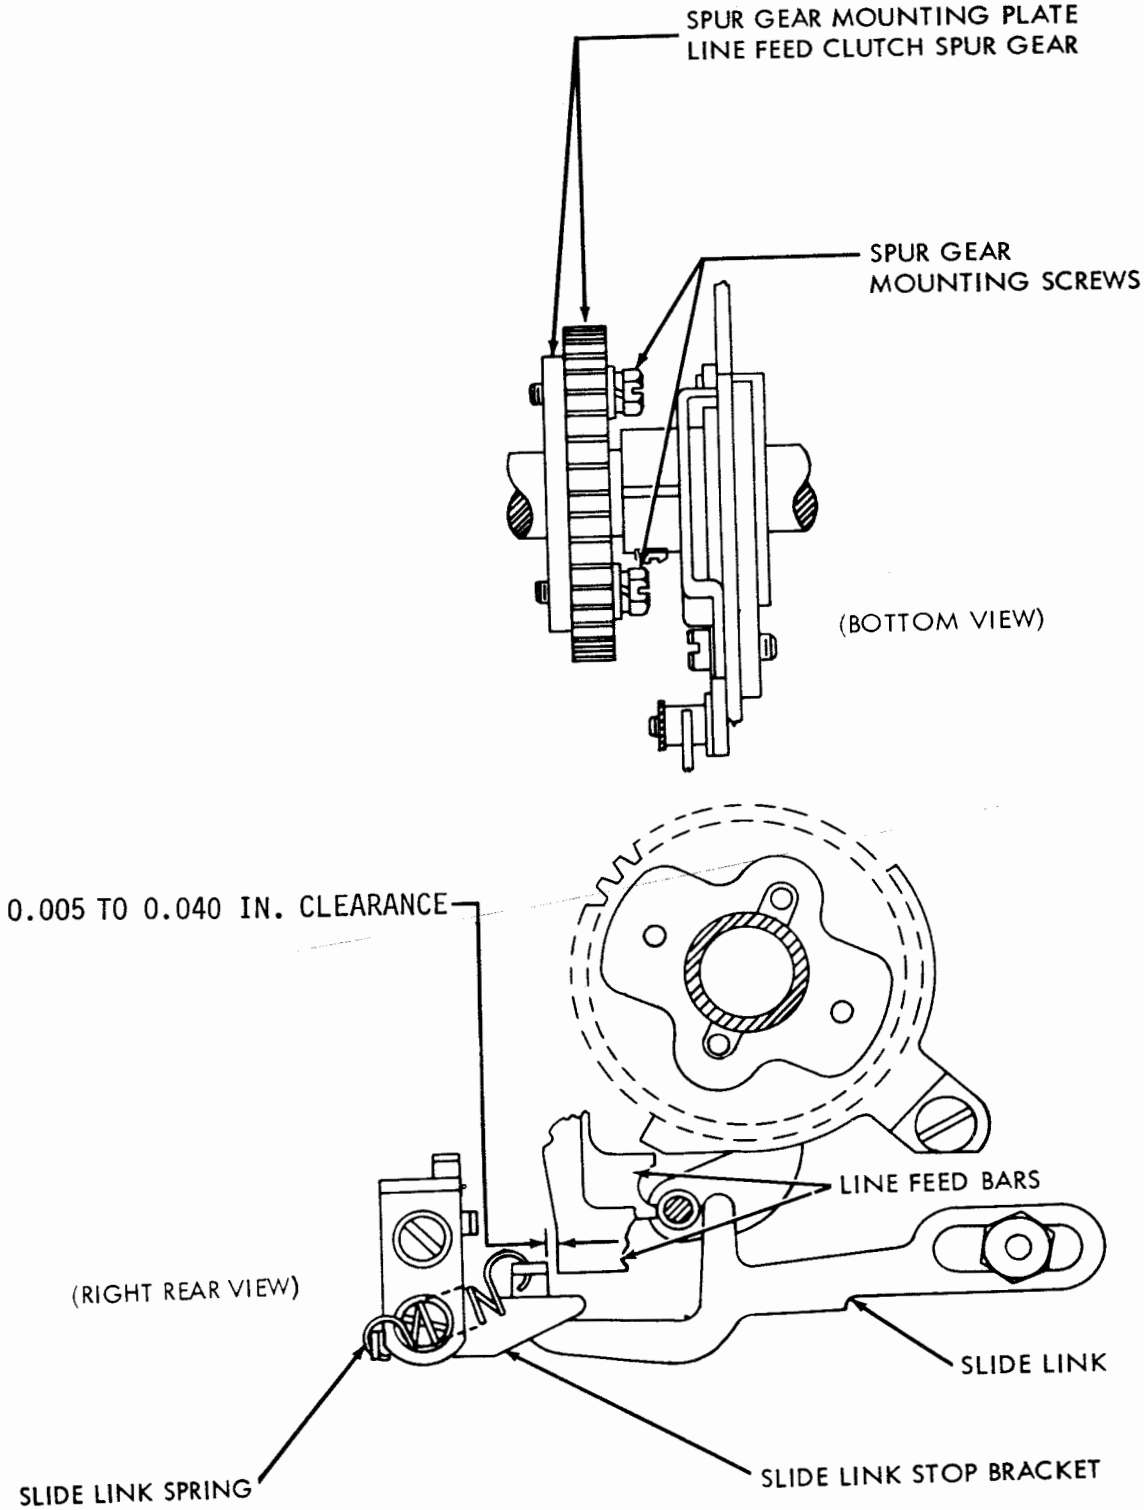

Figure 6-206. Line Feed Clutch Spur Gear
(6) Line Feed Clutch Spur Gear. Adjust line feed clutch spur gear as follows:
- (a) Refer to figure 6-206.